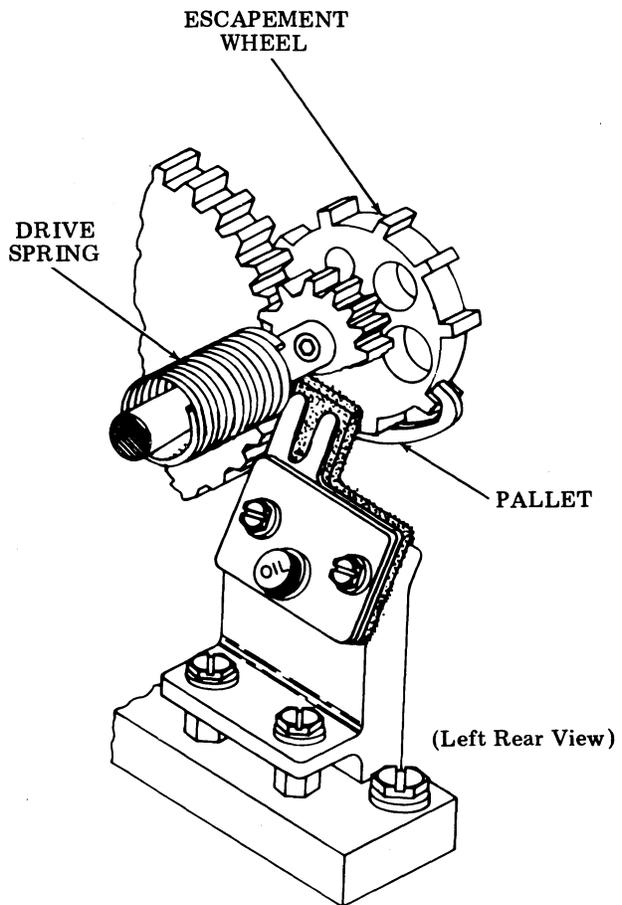

Figure 3 - Tape Stepper Assembly
3.06 With the reader idling, torque is applied to the escapement wheel by the intermediate escapement drive spring. Escapement wheel rotation is blocked by one side of escapement pallet (Figure 3), while the escapement pallet is held in position by an armature attached to the pallet shaft, which is attracted to the pole face of the energized magnet.